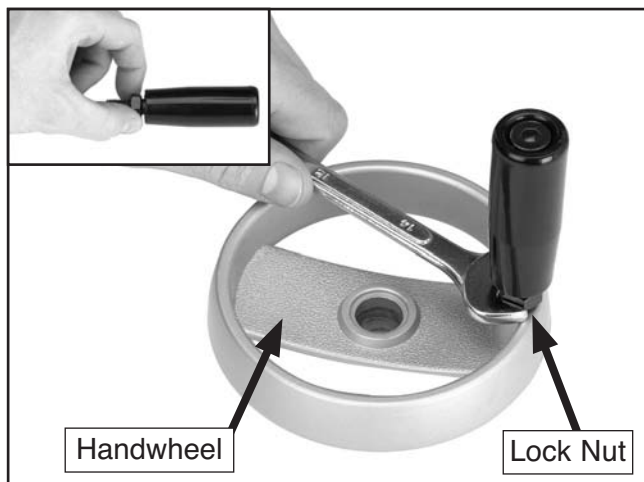

Figure 18. Handwheel assembly.
2. Screw the handle into the handwheel and tighten the lock nut against the wheel. This nut acts as a locknut and a spacer (**Figure 18**).